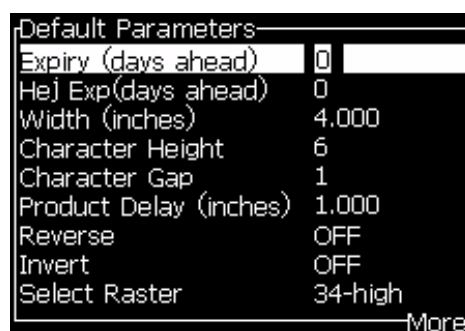

Figure 5-10: Default Parameters Dialog Box
The different parameters that are available (*Messages > Default Parameters*) are shown in Table 5-10, and Figure 5-10 on page 5-24.
- 2 Select the *Default Parameters* (Figure 5-10 on page 5-24) to edit the values.